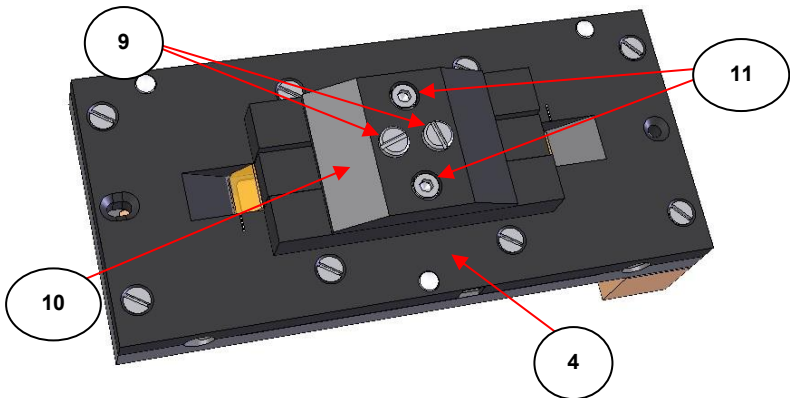
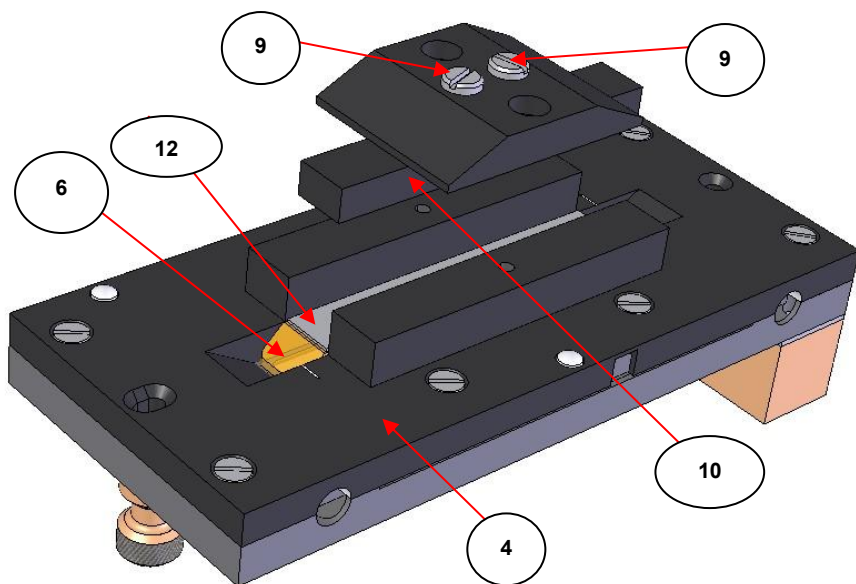

Fig 5. Underside of Heated Trough Top Plate Assembly
Fig 6. Lead Pad on Underside of ATR Crystal with Removal of Lower Clamp Pressure Plate Assembly
- 1) Lay the Top Plate assembly on to a clean workspace area and proceed to remove the two M3 x 8mm cap head screws (11) from the lower clamp pressure plate assembly (10) on the underside of the Top Plate assembly using the 2.5mm A/F Allen key supplied. Turn the screws (11) anticlockwise to remove. (See Fig 5.)
- 2) Between the underside of the lower clamp plate assembly (10) and the ATR crystal (6) there is a protective lead pad (12). Carefully remove the lower clamp plate assembly (10) away to gain access to the lead pad (12). (See Fig 6.) The lead pad (12) may be stuck close to the underside of the crystal (6) and so it needs to be removed very carefully away from the crystal.
- 3) Carefully replace the lower clamp pressure plate (**10**) assembly over the lead pad (**12**) and crystal (**6**) and refit the two screws (**11**). Ensure that the lead pad (**12**) and crystal (**6**) are not dislodged from their central positioning. (See as for **Fig 6** and **Fig 5**.)